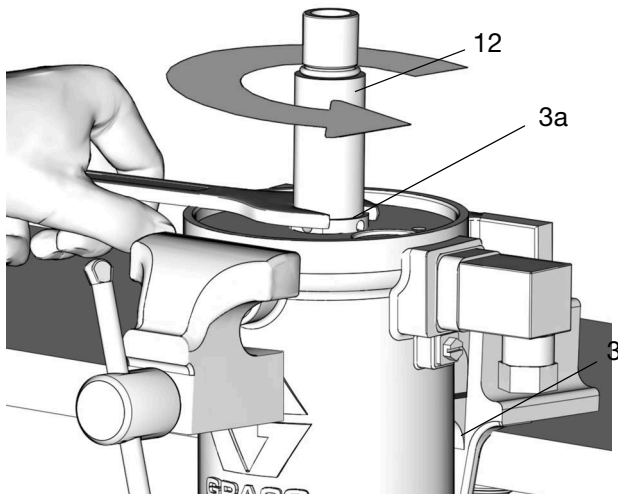

FIG. 16
13. Loosen the nut (3a) and remove the pump cylinder (12) from the air motor cylinder (3) (FIG. 16).